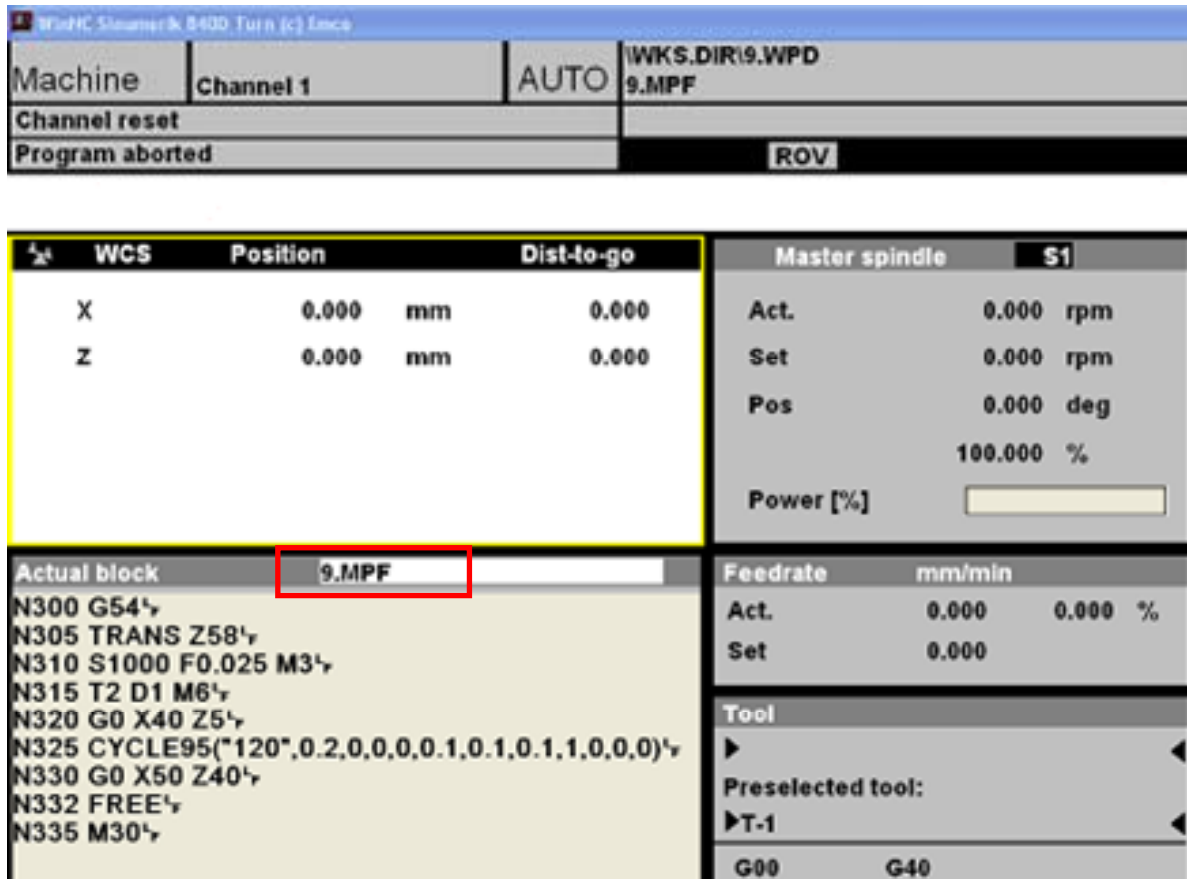

Fig.6.25: Shows the program in the actual block
45. Select the override speed using the override switch between (40 - 50%) and make sure that the program's name is in the "Actual block" box as shown in Fig. 6.25